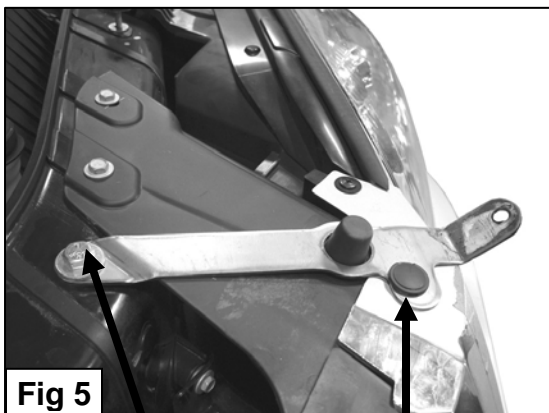
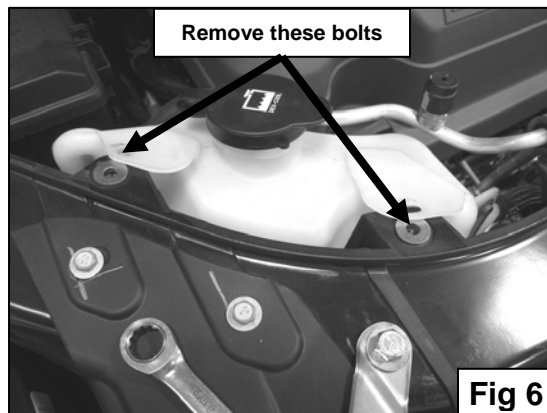

Fig 5
Fig 6
8. Open the hood and remove the plastic shroud on top of the radiator. Starting on the driver side, there is a factory hole in top of the radiator support next to the two factory bolts in the grille shell mounts. There is also one plastic fastener next to the rubber stopper, remove this fastener (**Figure 5**).
9. Position driver side Top Bracket over rubber stopper and with bent up facing the hood of the vehicle. Re-install plastic fastener to its original mounting location. Attach Top Bracket to factory hole using the included (1) 8-1.25mm x 30mm Hex Head Bolt, (1) 8mm Nut Plate, and (3) 8mm Flat Washers. Place two of the three Washers between the vehicle and Top Bracket as a spacer (**Figure 5**). Repeat this step for passenger side. **NOTE:** On the passenger side, in order to get Nut Plate under the grille shell mount, you need to remove the two bolts holding the radiator overflow tank in place and slide tank aside(**Figure 6**).